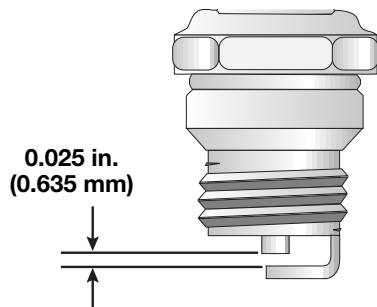

Fig. 28
3. Replace cracked, fouled or dirty spark plug. Set the air gap at 0.025 in. (0.635 mm.) using a feeler gauge (Fig. 28).